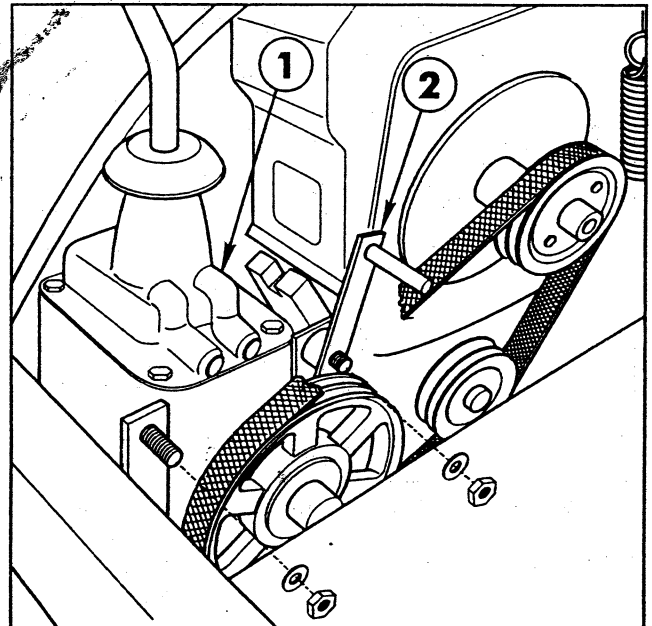

FIG. 2
3. Remove four (4) nuts and lock washers holding the Transmission to the Vehicle Frame (and the Belt Guide to the Transmission). See FIG. 2.